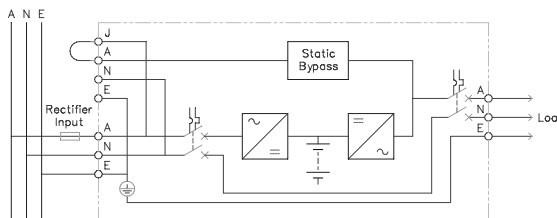
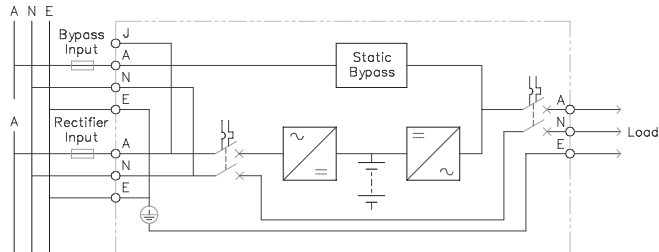

Fig 5. Single Supply Wiring
Fig 6. AC Supply with Separate Bypass Supply
2. Install UPS wiring system in accordance with Fig 5, for a Single Supply Input, or Fig 6 for a Dual Supply Input. A Dual Supply is normally to provide additional system validating in the event of a feeder failing.
2. For Wiring Diagram refer to Fig 5
3. For Wiring Diagram refer to Fig 6